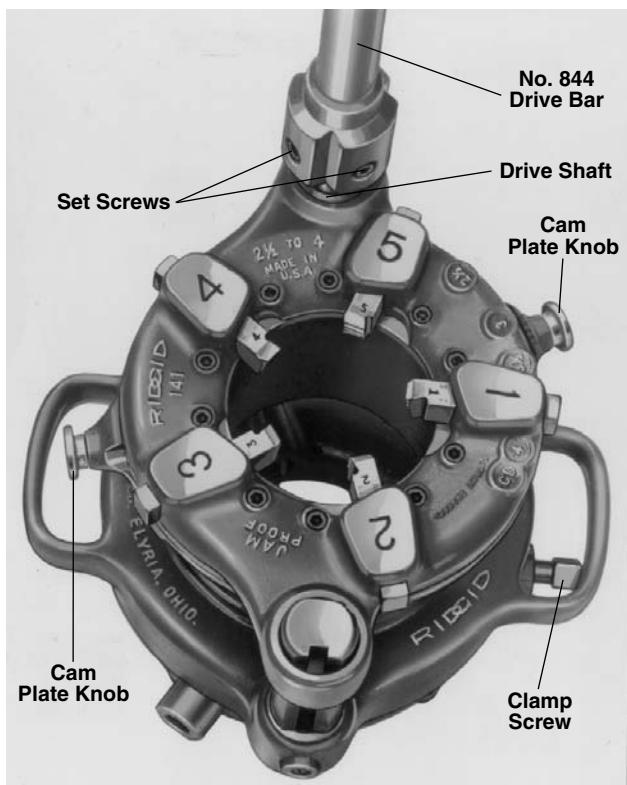

Figure 15 – No. 141 Geared Threader with No. 844 Drive Bar Installed (No. 161 Threader Similar)
2. Pull knobs (Figure 15) of cam plate and rotate cam plate to desired pipe size marking on top of die head. Release knobs when locating pins drop into hole in selector plate.
2. Pull Knobs (*Figure 15*) and rotate cam plate to CD mark on top of die head.
3. Remove worn die set (*Figure 15*) and insert new die set.
1. Place threader on floor or workbench with drive shaft up. Install No. 844 Drive Bar on threader drive shaft and tighten two (2) set screws (*Figure 15*).
7. Using socket wrench, tighten workholder clamp screw (*Figure 15*) securely.
8. Slip square socket of No. 840A Universal Drive Shaft over square end of threader drive shaft and tighten two (2) set screws.
3. Loosen two (2) set screws and remove universal drive shaft from threader.
4. 141 and 161 – Loosen jaw clamp screw (*Figure 15*) and turn workholder to OPEN position.